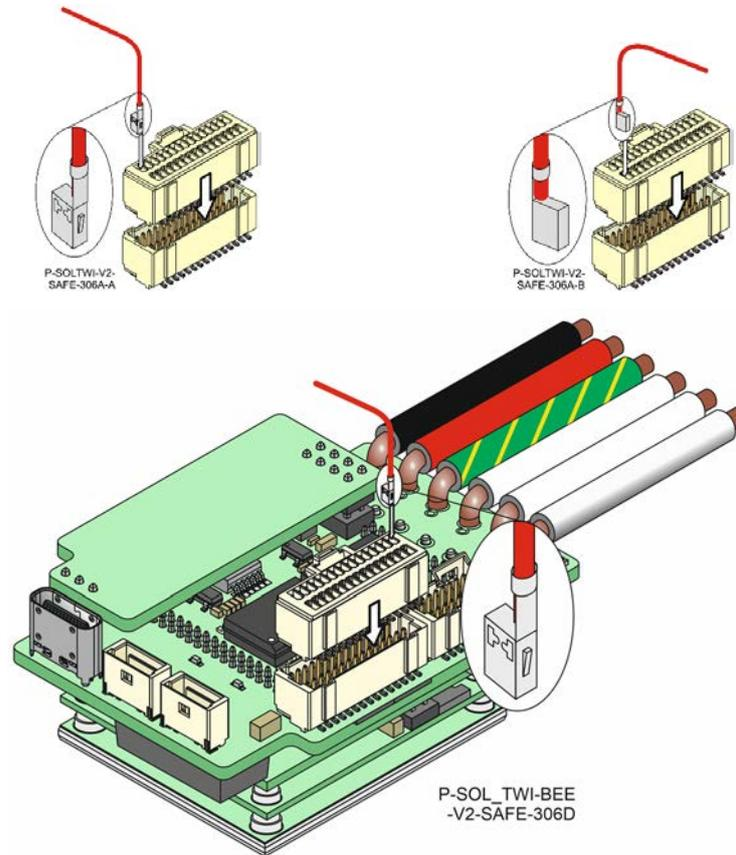

Figure 10: Inserting a wire/pin to the Female Connector
3. Place the connector on a flat surface, in the orientation as shown in Figure 10. Notice that the rectangular slot has a niche at the bottom of the slot.
4. Insert the wire connector to the slot as shown in Figure 10. Make sure that the connector protrusion is inserted to the bottom of the rectangular slot.